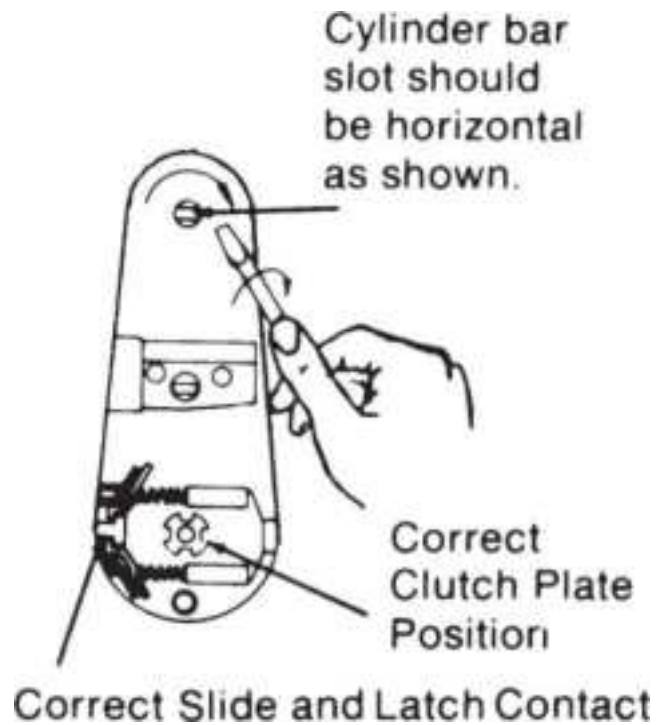
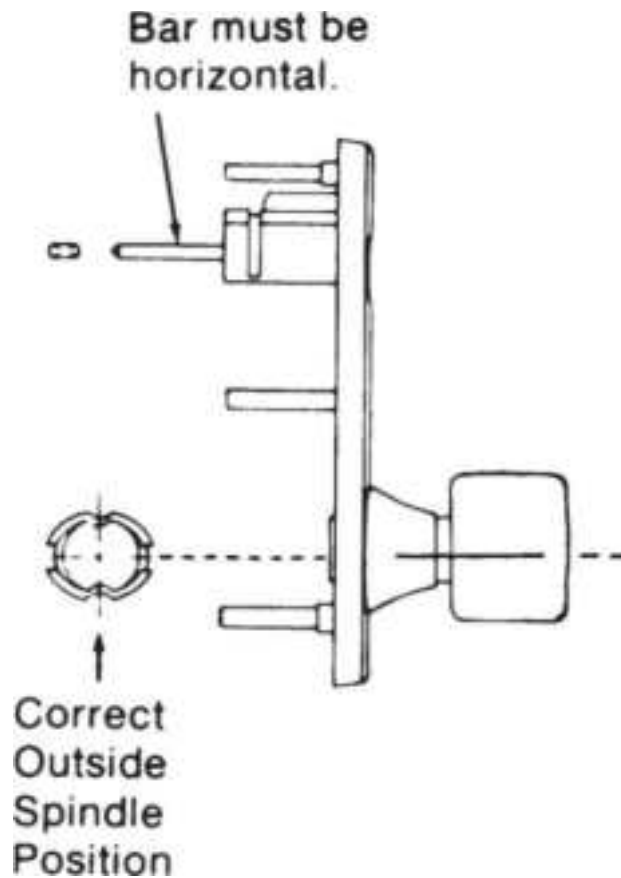
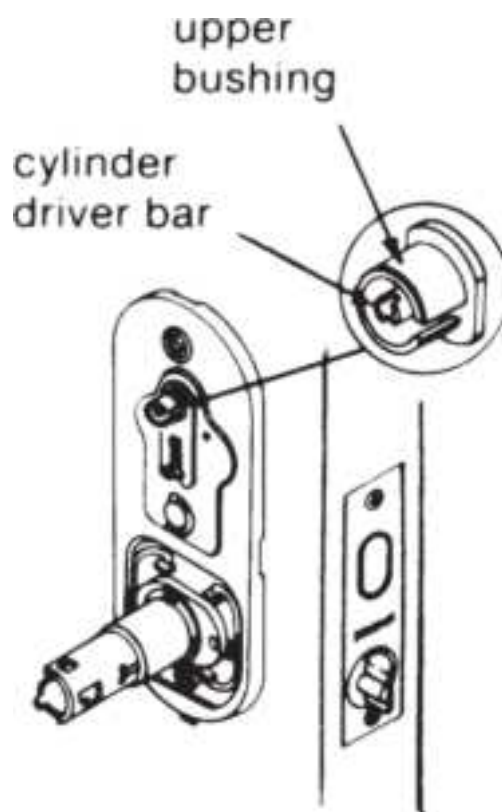

**Figure 13.64** Testing lock.
**Figure 13.65** Rotate cylinder bar.
**Figure 13.67** Driver bar must be vertical.
11. From the outside of the door, turn the cylinder bar slot with a screwdriver to check the action of the deadbolt and deadlatch. Once you are satisfied that the lock works properly, retract the deadbolt and release the knob button. Turn the cylinder bar slot to the horizontal position (Fig. 13.64). The clutch plate should be situated as shown.
12. Rotate the cylinder bar to the horizontal position with the knob spindle as shown (Fig. 13.65 ).
Fig. 13.65 and the clutch as shown in Figures 13.64 and 13.66 . G85PD lock-sets require that the cylinder driver bar be flush with the end of the upper bushing (Fig. 13.67 ).